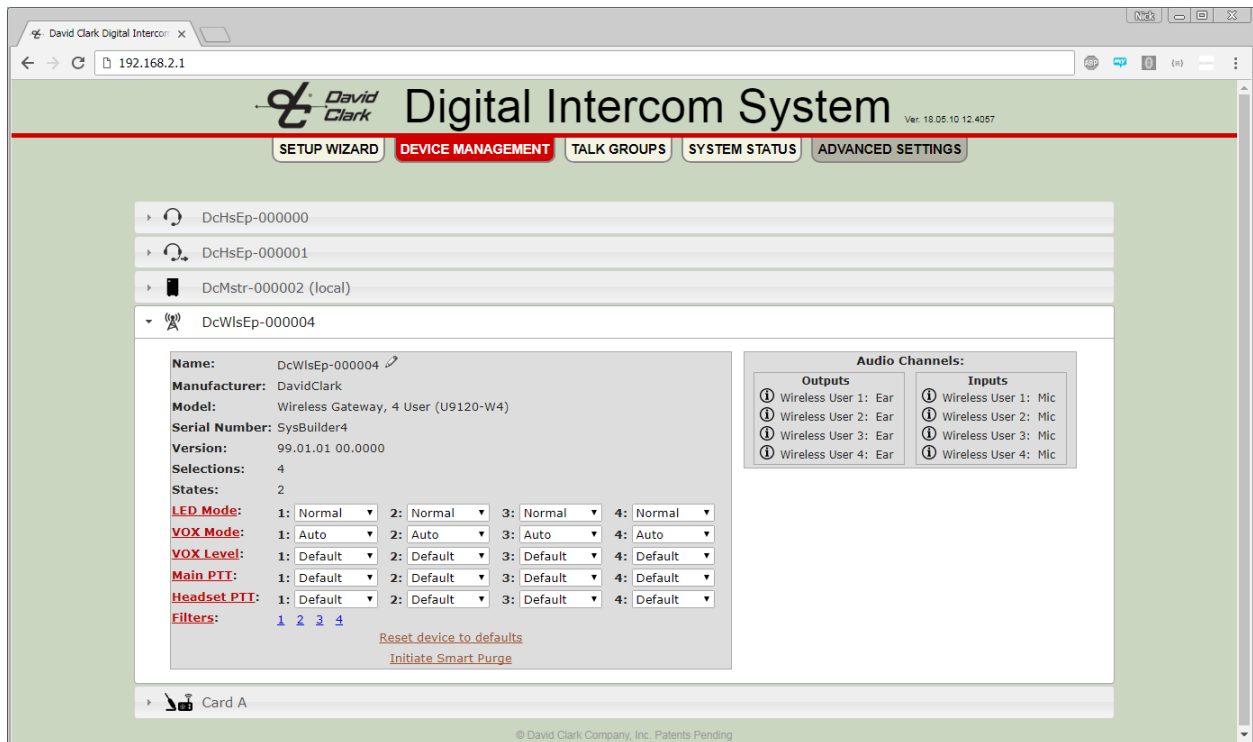

Figure 8.6.
3. A Headset Station or Wireless Gateway Station has the following configurable options, as shown in **Figure 8.6**. See Device Management on page 22 for details.
- LED Mode -- See **Figure 8.6**.
- VOX Mode – See **Figure 8.6**.
- VOX Level – See **Figure 8.6**.
- PTT Overrides – See **Figure 8.6**.
- Filters – See **Figure 8.6**.